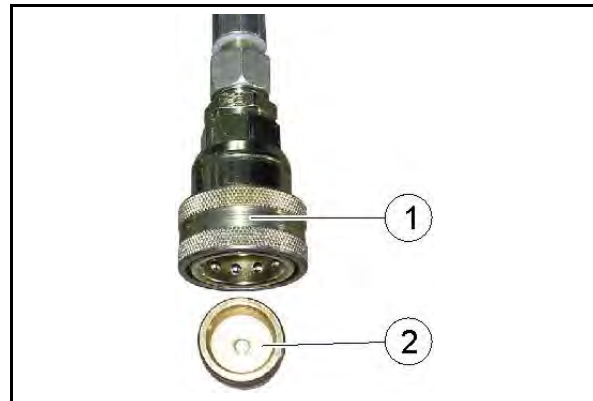

Fig. 65
2. Uncouple the hydraulic sleeve (Fig. 65/1).
3. Slip the hydraulic sleeve onto the machine's blanked-off connecting piece (Fig. 65/2).